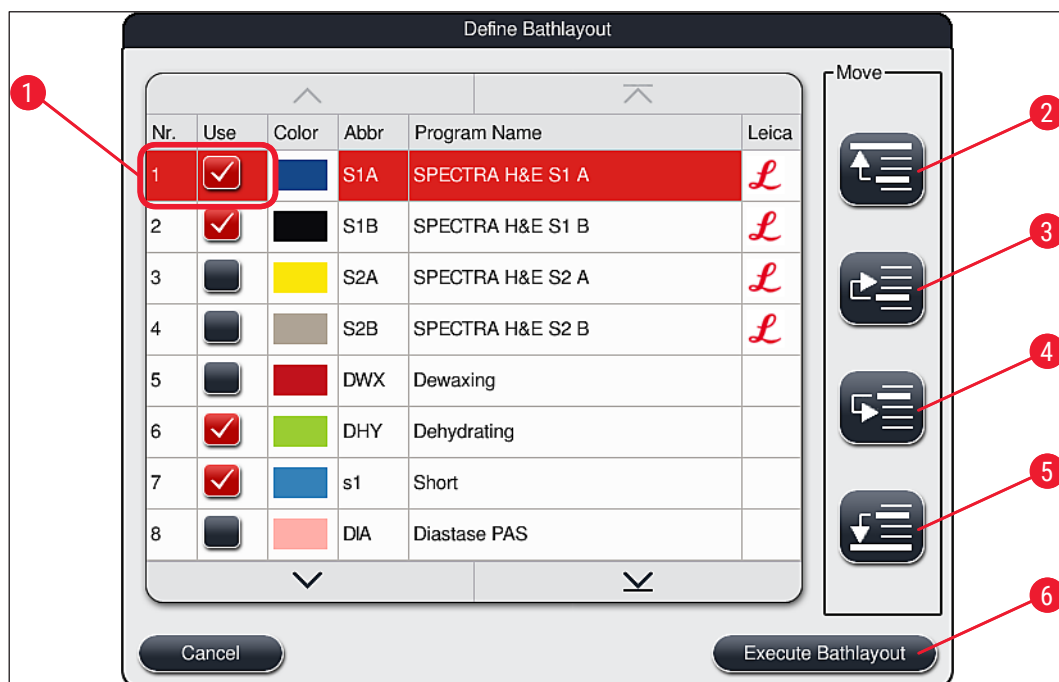

Fig. 50
- Press the **Continue** button (→ "Fig. 52-4") to proceed or **Cancel** button (→ "Fig. 52-5") to return to the program selection (→ "Fig. 50").